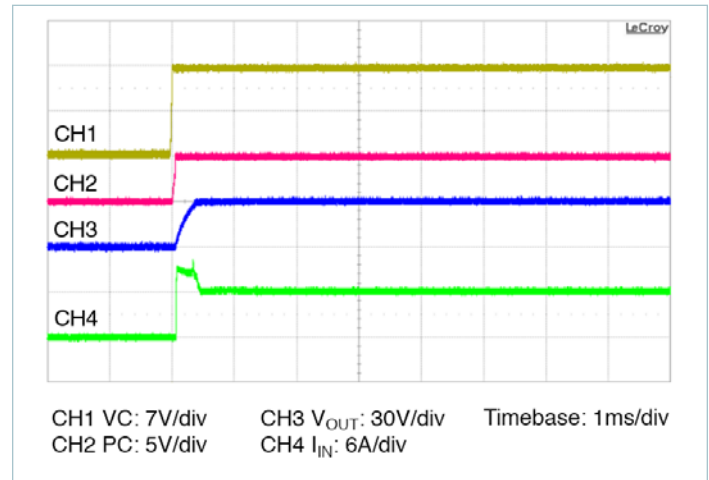

Figure 14 — Start up from application of VC;  $V_{IN}$  pre-applied  $C_{OUT} = 100\mu\text{F}$
- **Stand-alone operation (VC applied after  $V_{IN}$ ):** In this case the VTM output will begin to rise upon the application of the VC voltage (See Figure 14). The Adaptive Soft-Start Circuit may vary the output rate of rise in order to limit the inrush current to its maximum level. When starting into high capacitance or a short, the output current will be limited for a maximum of 1200 $\mu$ s. After this period, the Adaptive Soft-Start Circuit will time out and the VTM module may shut down. No restart will be attempted until VC is re-applied or PC is toggled. The maximum output capacitance is limited to 100 $\mu$ F in this mode of operation to ensure a successful start.